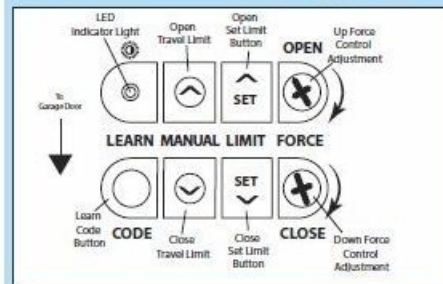

FIG. 7-1 Learn code button and LED
- Locate "Learn Code"  button and indicator LED on the power head (Fig. 7-1).